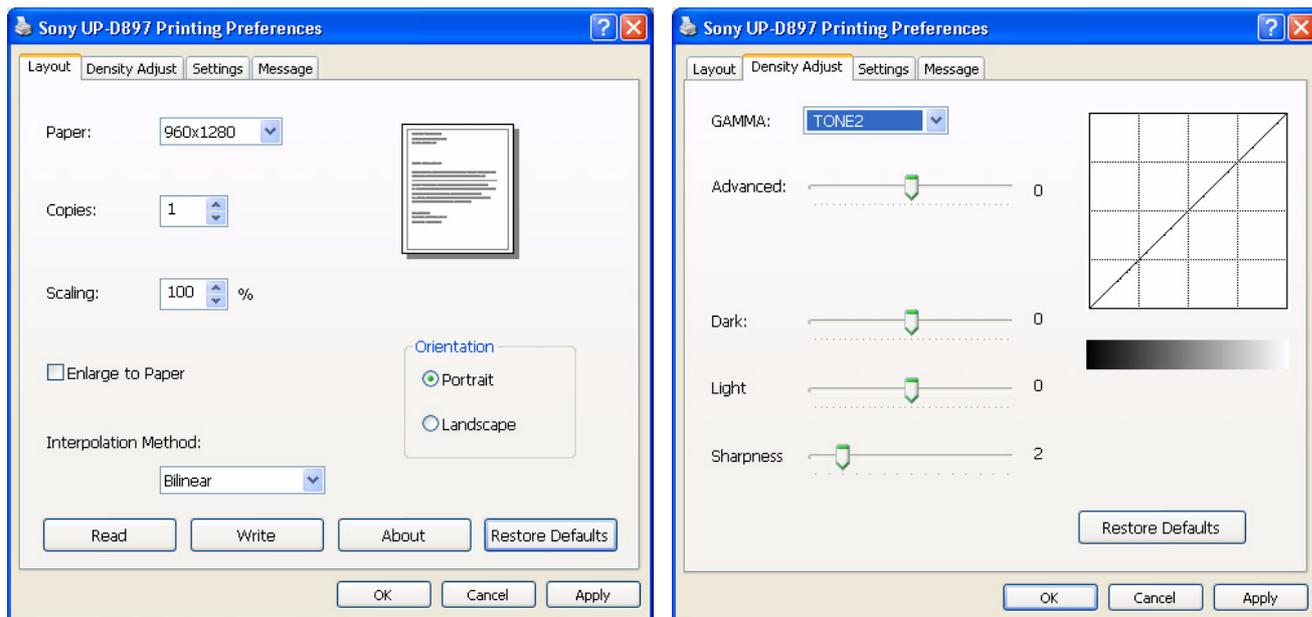

Figure 3-48 Layout + Density Adjust page
- 2.) Select the **LAYOUT** page (see: Figure 3-48 below) and select:
- 3.) Select the **DENSITY ADJUST** page (see: Figure 3-48 above) and select: